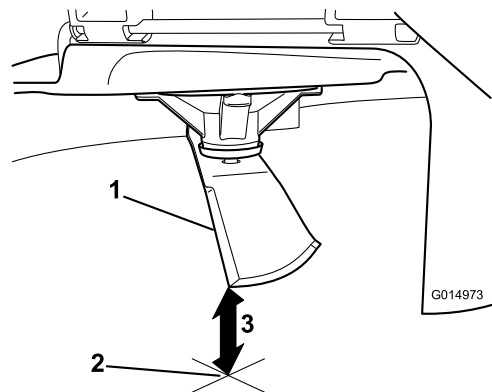

Figure 80
5. Measure from the tip of the blade to the flat surface (Figure 80).